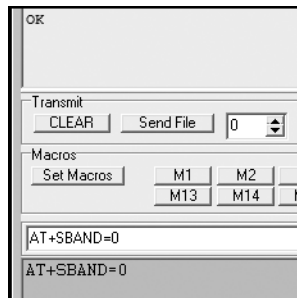

Figure 20-6: Successful band change
5. To set the GSM module to the required band, enter the command **AT+SBAND=x**, where **x** is the band number selected from Table 20-1. The shield should return **OK**, as shown in Figure 20-6.